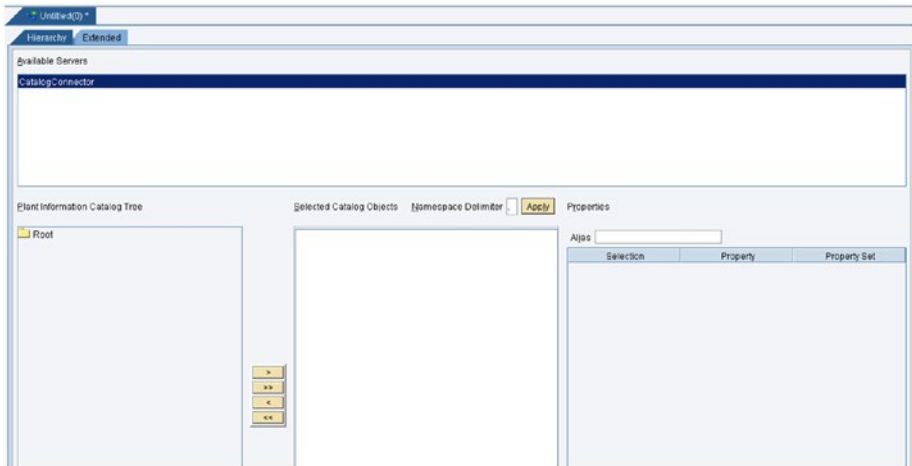

Figure 7-130. Configuring hierarchy Catalog query
5. In the Plant Information Catalog Query Details screen, navigate to the PIC hierarchy of the selected data server in the PIC tree. See Figure 7-130.